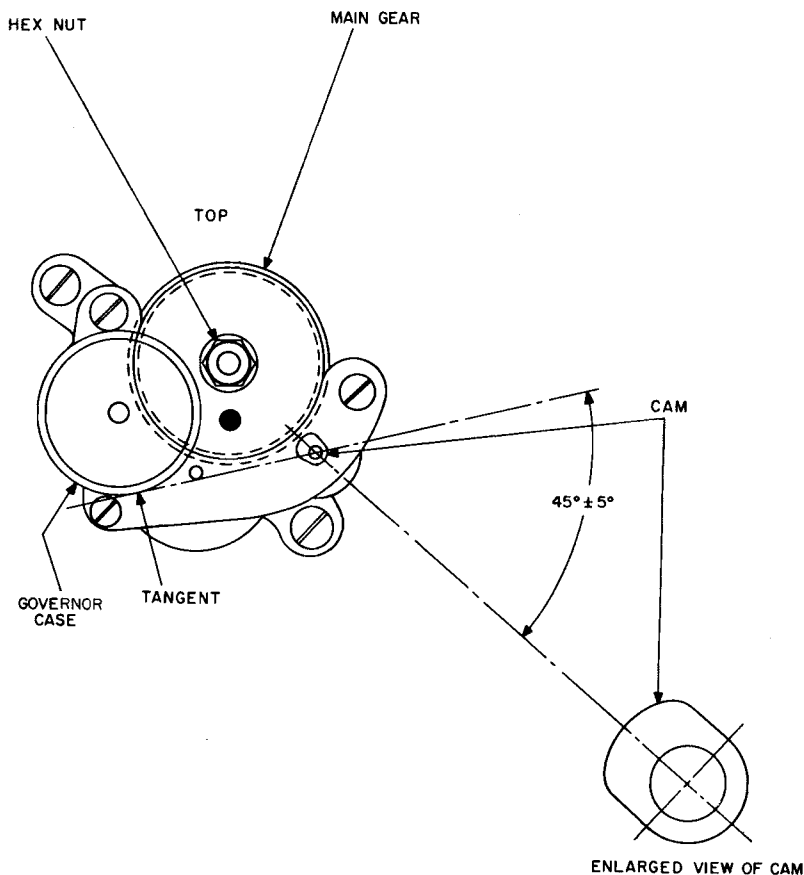

Figure 4.
(e) Governor weights for less than .010 inch clearance from case when extended -- replace gear train assembly. Cam must be aligned as shown in figure 4 and, with dial in normal position, pawl must be free to rotate. If necessary, adjust governor spring as in (c) above.
(1) Remove two mounting screws. Slide assembly from under main gear and lift. Be careful not to damage cam follower pulsing spring assembly. This subassembly should be replaced in its entirety, except for the governor spring.
(2) To replace the assembly, reverse above procedure. Cam must be positioned so that maximum point of cam lobe would be on an imaginary line drawn from the center of the cam shaft to the rear edge of the threaded portion of the main shaft (approximately the 10 o'clock position). Check that, on last pulse, cam lobe causes closing of cam follower pulsing spring contacts before stud on main gear causes shunt spring contacts to open. If not, cam positioning must be readjusted. Check for smoothest dial operation by adjusting position of assembly at slotted hole end. Tighten screws when best position is located. Refer to figure 4.